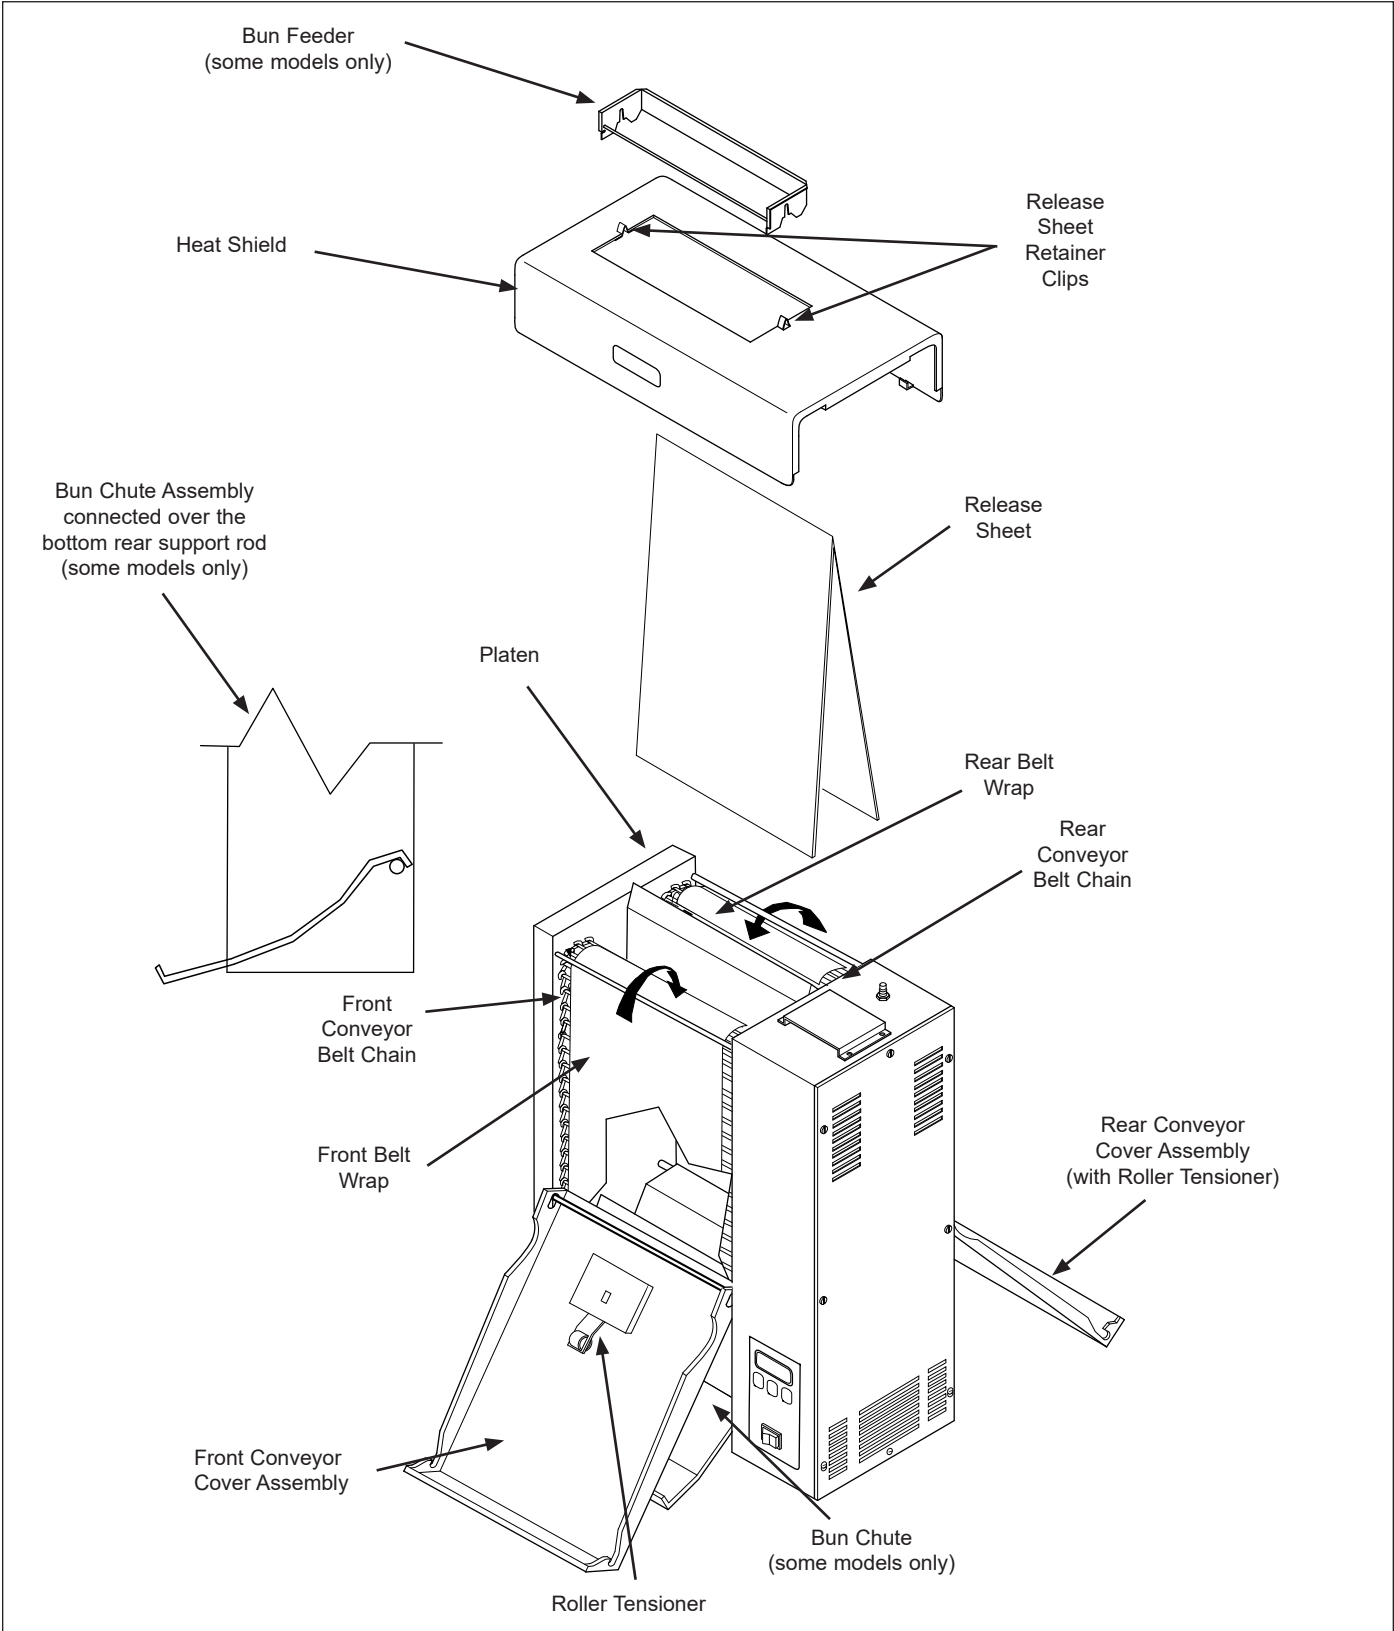

Figure 1. VCT-2000 Toaster
- Bun Chute (Figure 1) some models only.
- Bun Feeder (Figure 1) some models only.
- Two Release Sheets (Figure 1).
NOTE: The factory has pre-installed a Release Sheet over the Platen (Figure 1). Verify that it is properly in place before proceeding.
1. Remove Bun Chute (some models) and Bun Feeder from the box and install (Figure 1).
IMPORTANT: Make sure heat shield assembly is activating the Conveyor Safety Interlock Switch (see Figure 1). The conveyors will not rotate unless the Heat Shield is in place and Conveyor Safety Interlock Switch is activated.